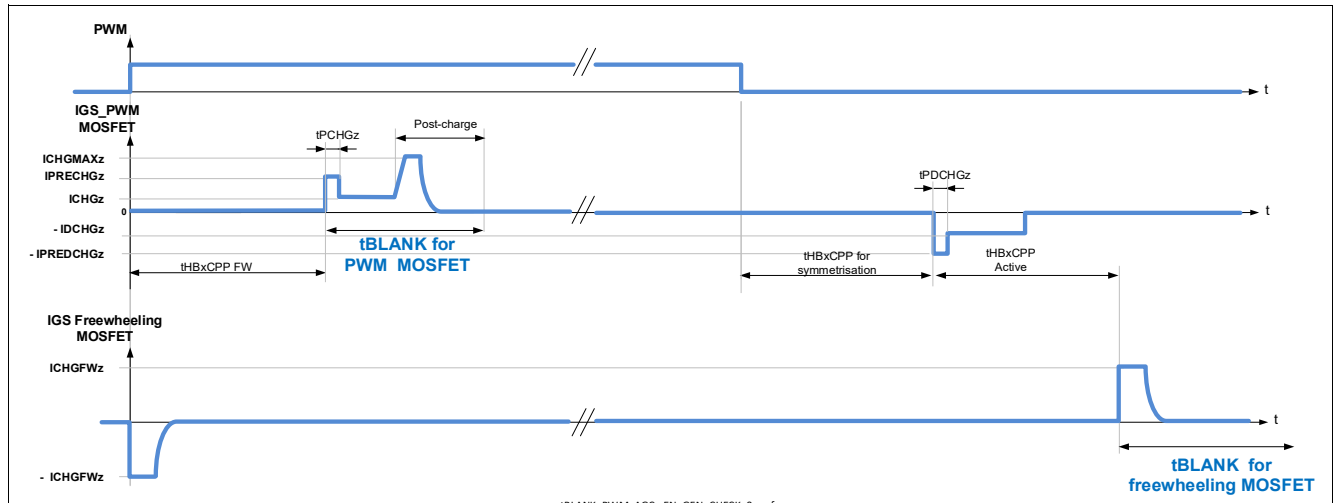

Figure 33 Blank time for half-bridges in PWM operation, detection of generator mode disabled (EN_GEN_CHECK = 0)
- The blank time of the PWM MOSFET starts at the expiration of the cross-current protection time of the FW MOSFET (tHBxCCP FW). Refer to **Figure 33**.
- The blank time of the FW MOSFET starts after expiration of the cross-current protection time at turn-off of the PWM MOSFET (tHBxCCP Active). Refer to **Figure 33**.